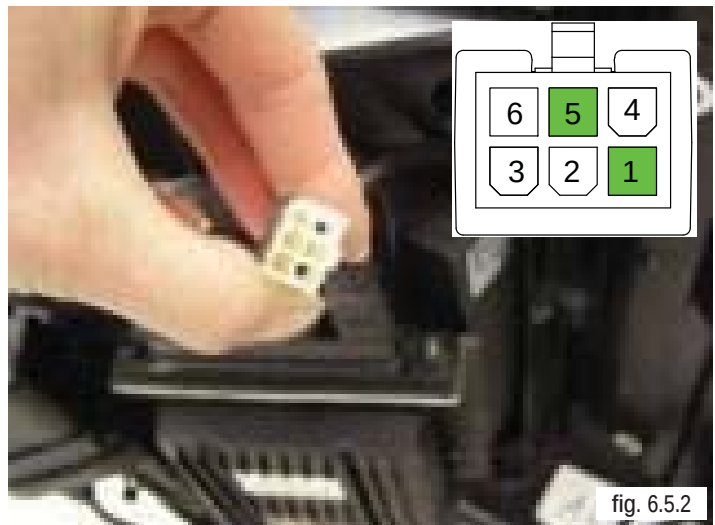

fig. 6.5.2
4. If your reading is open, re-test the resistance at the 6 pin connection leading directly from the shear actuator (fig 6.5.2) at pins 1 and 5.